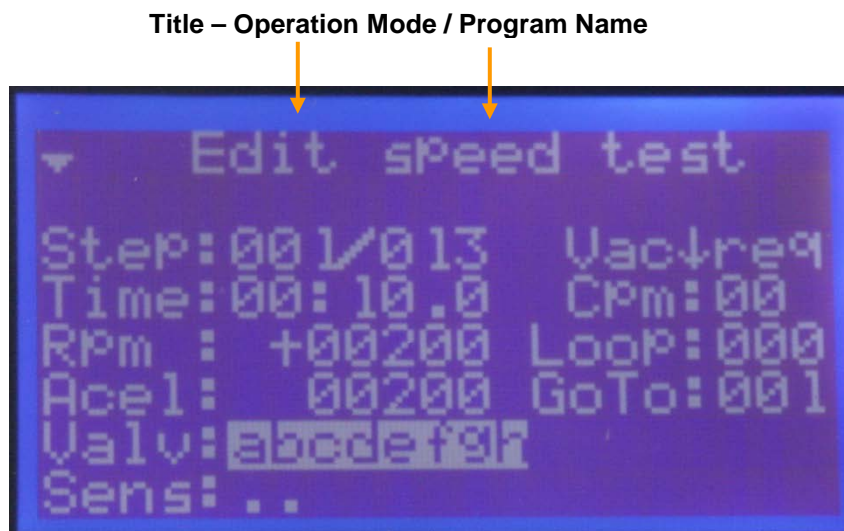

Figure 3-15
Press the “Edit Mode” key to enter a selected program into the “edit mode”. Figure 3-15 shows the Edit screen.
3.4.3.1 EDIT MODE – DISPLAYED FIELDS – see figure 3-15